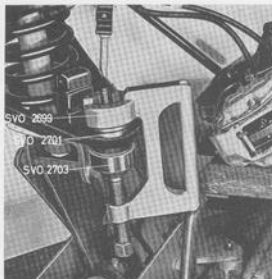

Fig. 6-32. Fitting lower ball joint
3. Press the ball joints into the control arm with tools 2699+2701+2703, see Fig. 6-32. Should the ball joint not fit correctly, turn the tool 180° and tighten finally with the tool in this position. The ball joint must not be loose in the control arm.